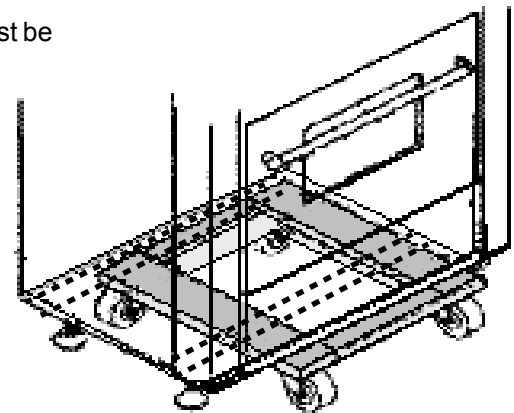

Figure 7: Furniture Dolly Positioning
- Due to the weight, a furniture dolly with soft wheels or an air lift should be used to move this unit. The weight must be supported uniformly across the bottom (see *Figure 7*).